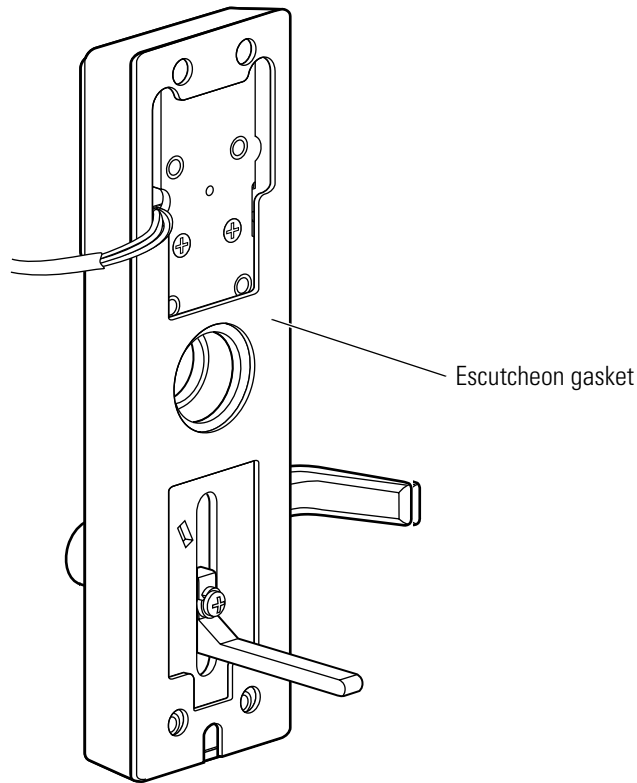

Figure 10.2 Removing and reinstalling the escutcheon gasket
2. Peel the gasket off the escutcheon and discard. See Figure 10.2.
2. Press the gasket into place on the escutcheon. See Figure 10.2.